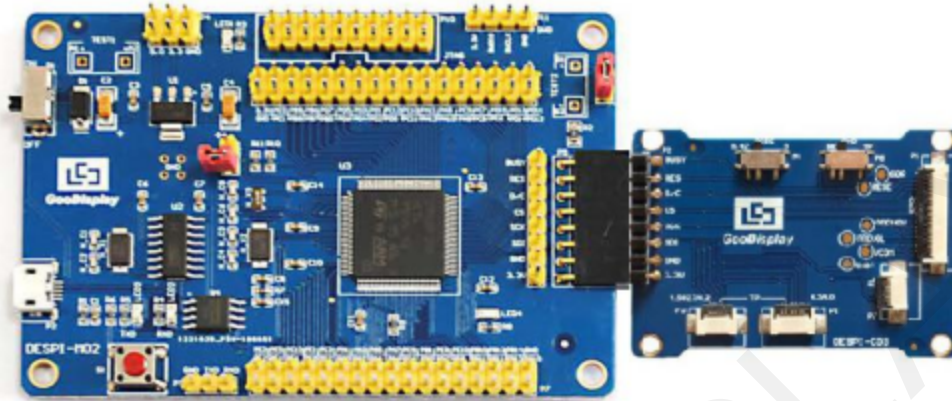

Figure 3 : Connection between DESPI-M02L and DESPI-C03
1) Connect DESPI-C03 to DESPI-M02L as shown in Figure 3.